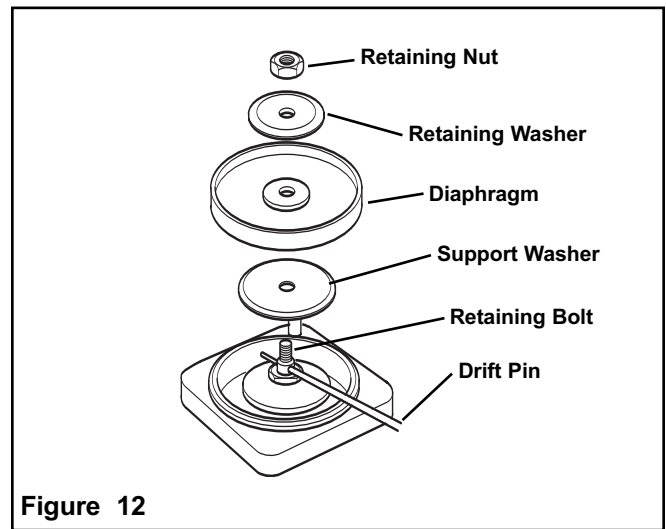

Figure 12
4. Turn the crankshaft to bring the diaphragm to the top of its stroke. Insert a drift pin into the hole in the retaining bolt to hold it in place. Remove the retaining nut, retaining washer and the diaphragm (see Figure 12).